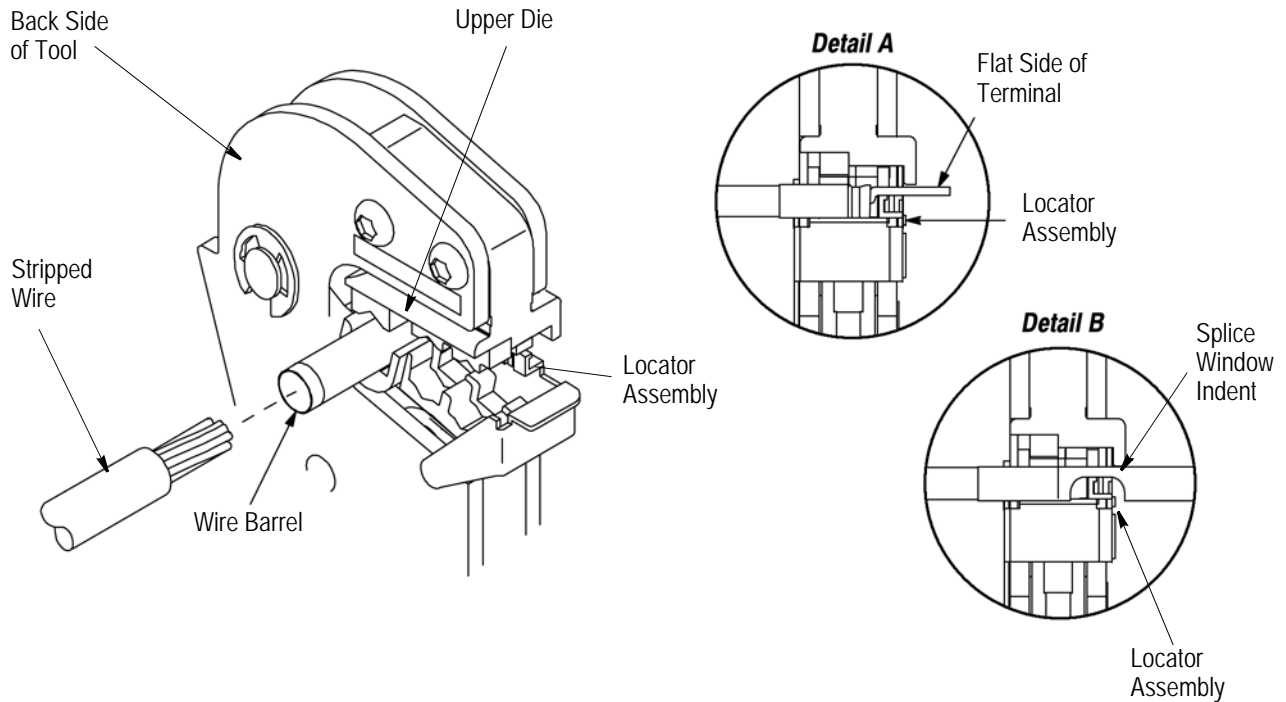

Figure 3
- a. If crimping a terminal, position the wire barrel in the appropriate crimping chamber between the locator assembly and the upper die. Make sure that the flat side of the terminal faces up. See Figure 3, Detail A.
- b. If crimping a splice, position the wire barrel in the appropriate crimping chamber. Seat the splice window indent on the locator assembly. Refer to Figure 3, Detail B.
4. Hold the tool so that the BACK side is facing you, and insert the stripped wire into wire barrel until the wire bottoms. Refer to Figure 3.